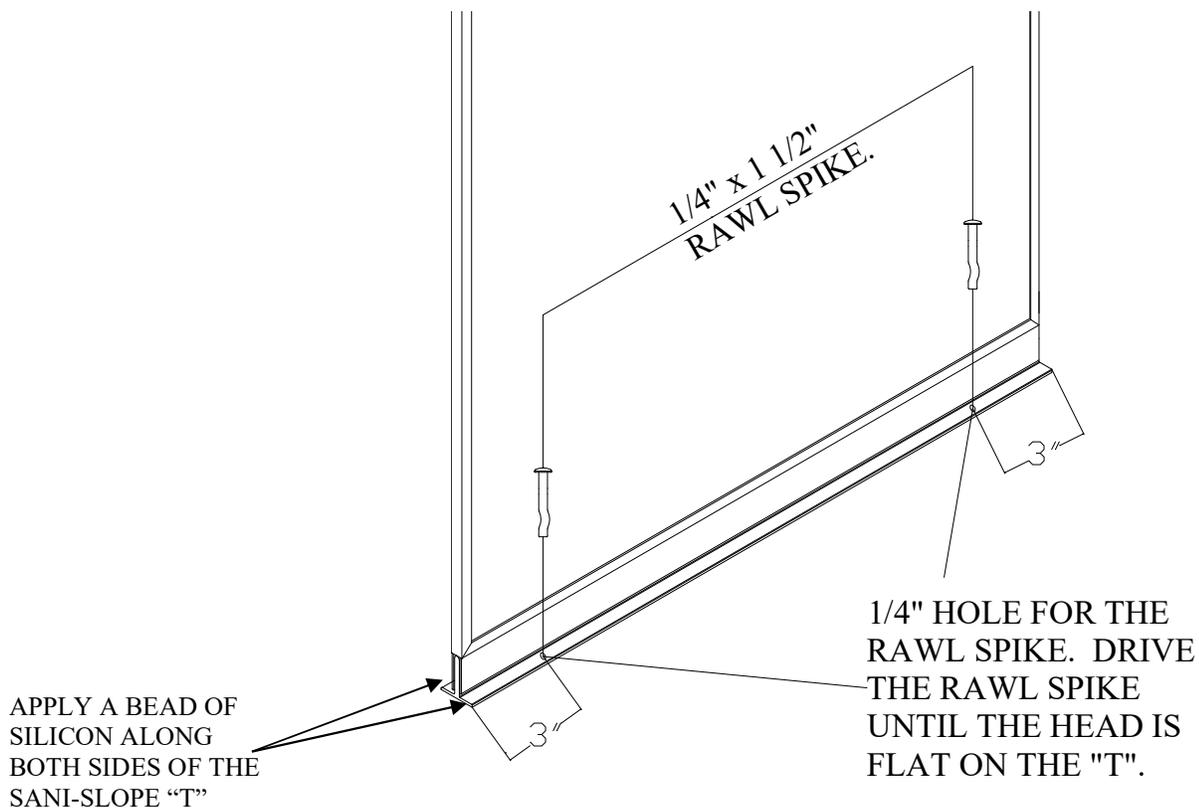

Figure 16
- Using the 5/16” drill bit, pre-drill the “Sanislope T”s for the outside division panels only, as shown in Figure 16. These holes will be used later to anchor the system to the floor.
3. Repeat steps F-1 and F-3 for all hole locations shown in Figure 16.
2. Apply a thin bead of sealant provided along the seam created between the “Sanislope T” and the concrete as shown in Figure 16.